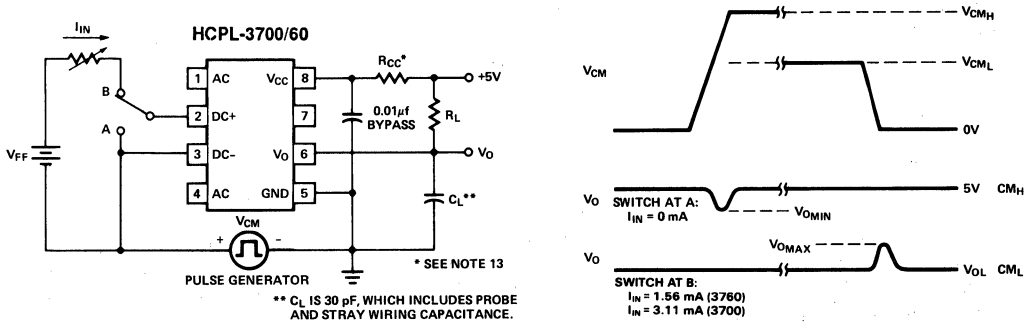

Figure 10. Test Circuit for Common Mode Transient Immunity and Typical Waveforms.
12. Common mode transient immunity in Logic High level is the maximum tolerable (positive) $dV_{CM/dt}$ on the leading edge of the common mode pulse, V_{CM} , to insure that the output will remain in a Logic High state (i.e., $V_O > 2.0 \text{ V}$). Common mode transient immunity in Logic Low level is the maximum tolerable (negative) $dV_{CM/dt}$ on the trailing edge of the common mode pulse signal, V_{CM} , to insure that the output will remain in a Logic Low state (i.e., $V_O < 0.8 \text{ V}$). See Figure 10.